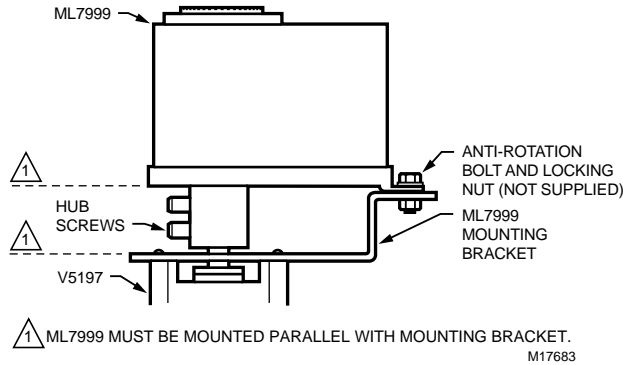

Fig. 18. Mounting the ML7999 Actuator on the V5197 Valve.
Align the ML7999 Actuator bottom panel parallel with the ML7999 mounting bracket (Fig. 18). Failure to do so will cause undue stress on the actuator motor and shorten its operating life.
3. Partially tighten the four hub setscrews to ensure that the actuator seats firmly against the mounting bracket with the shaft centered in the actuator hub. See note 1 in Fig. 18.